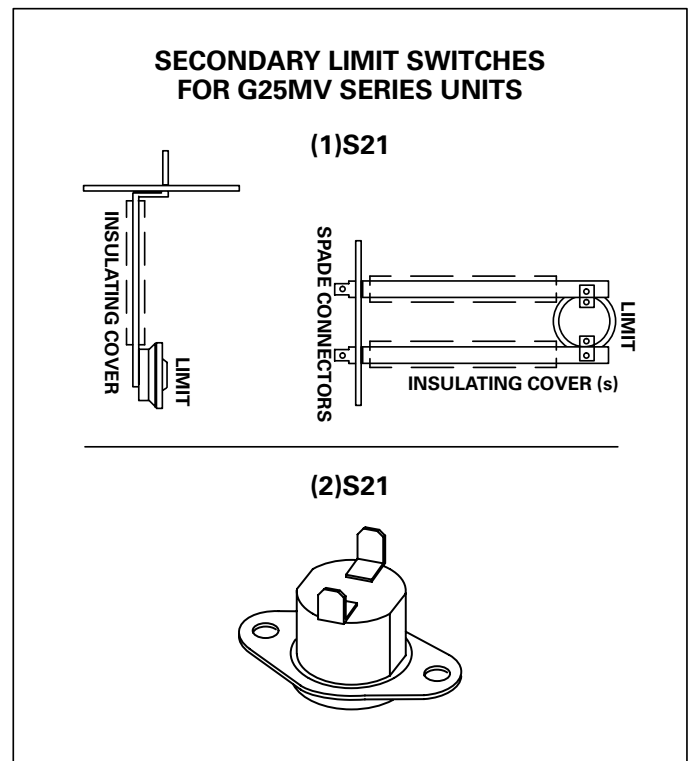

FIGURE 14
The secondary limit switches [(1)S21 and (2)S21] on G25MV units are located in the blower compartment on the back side of the blower housing (see figure 8). When excess heat is sensed in the blower compartment, the limit will open. If the limit is tripped, the burner control energizes the supply air blower and closes the gas valve. The limit automatically resets when unit temperature returns to normal. Two limits are supplied in each furnace and each limit is a different style. Figure 14 shows both styles. Both switches are N.C. SPST auto-reset switches which actuate on a temperature rise. The switches are factory set and cannot be adjusted. The (1)S21 limit shown on the top opens at  $140^{\circ}\text{F} \pm 5^{\circ}\text{F}$  ( $60.0^{\circ}\text{C} \pm 2.8^{\circ}\text{C}$ ) on a temperature rise and closes at  $110^{\circ}\text{F} \pm 10^{\circ}\text{F}$  ( $43.3^{\circ}\text{C} \pm 5.6^{\circ}\text{C}$ ). The (2)S21 limit shown on the bottom opens at  $165^{\circ}\text{F} \pm 5^{\circ}\text{F}$  ( $73.9^{\circ}\text{C} \pm 2.8^{\circ}\text{C}$ ) on a temperature rise and closes at  $135^{\circ}\text{F} \pm 8^{\circ}\text{F}$  ( $57.2^{\circ}\text{C} \pm 4.4^{\circ}\text{C}$ ).
The primary limit (S10) on G25MV units is located in the middle of the heating vestibule panel (see figure 16). S10 is the same type of limit as shown on the top of figure 14. When excess heat is sensed in the heat exchanger, the limit will open. If the limit is tripped, the burner control energizes the supply air blower and closes the gas valve. The limit automatically resets when unit temperature returns to normal. The switch is factory set and cannot be adjusted. The switch has different setpoints for each unit model number. See table 7. The setpoint will also be printed on the side of the limit.